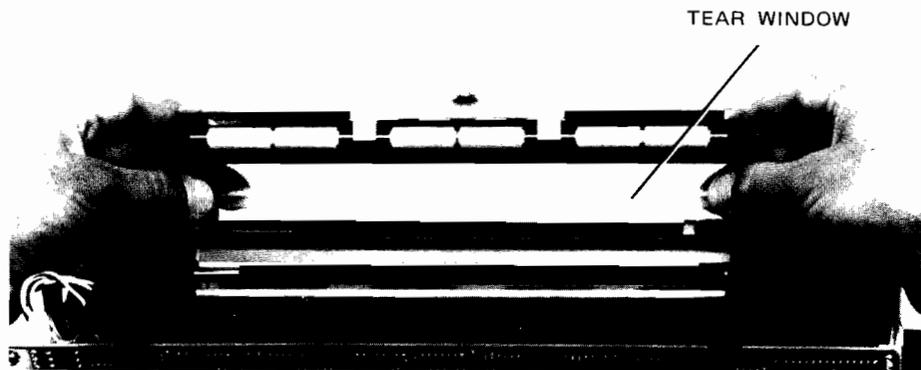

Figure 7-13A. Tear Window
2. Remove tear window. (See figure 7-13A.)